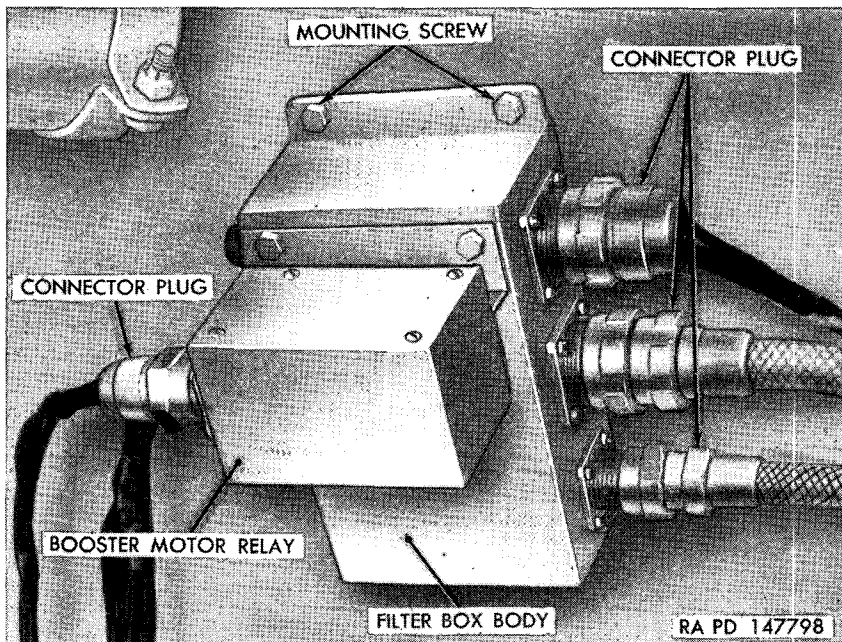

Figure 336. Turret filter box.
a. **TURRET FILTER BOX** (fig. 336).
- (1) *Description*. A radio interference suppression filter box assembly is secured to the turret bulkhead in front of the gunner's control assembly. It contains capacitors for suppressing any radio interference generated in the firing circuits.
(3) *Installation.* Position cover, if removed, to mounting brackets and secure with four lock washer screws. Position filter box body to cover (fig. 336) and secure with four screws and lock washers. Install cable connector plugs into filter box receptacles.